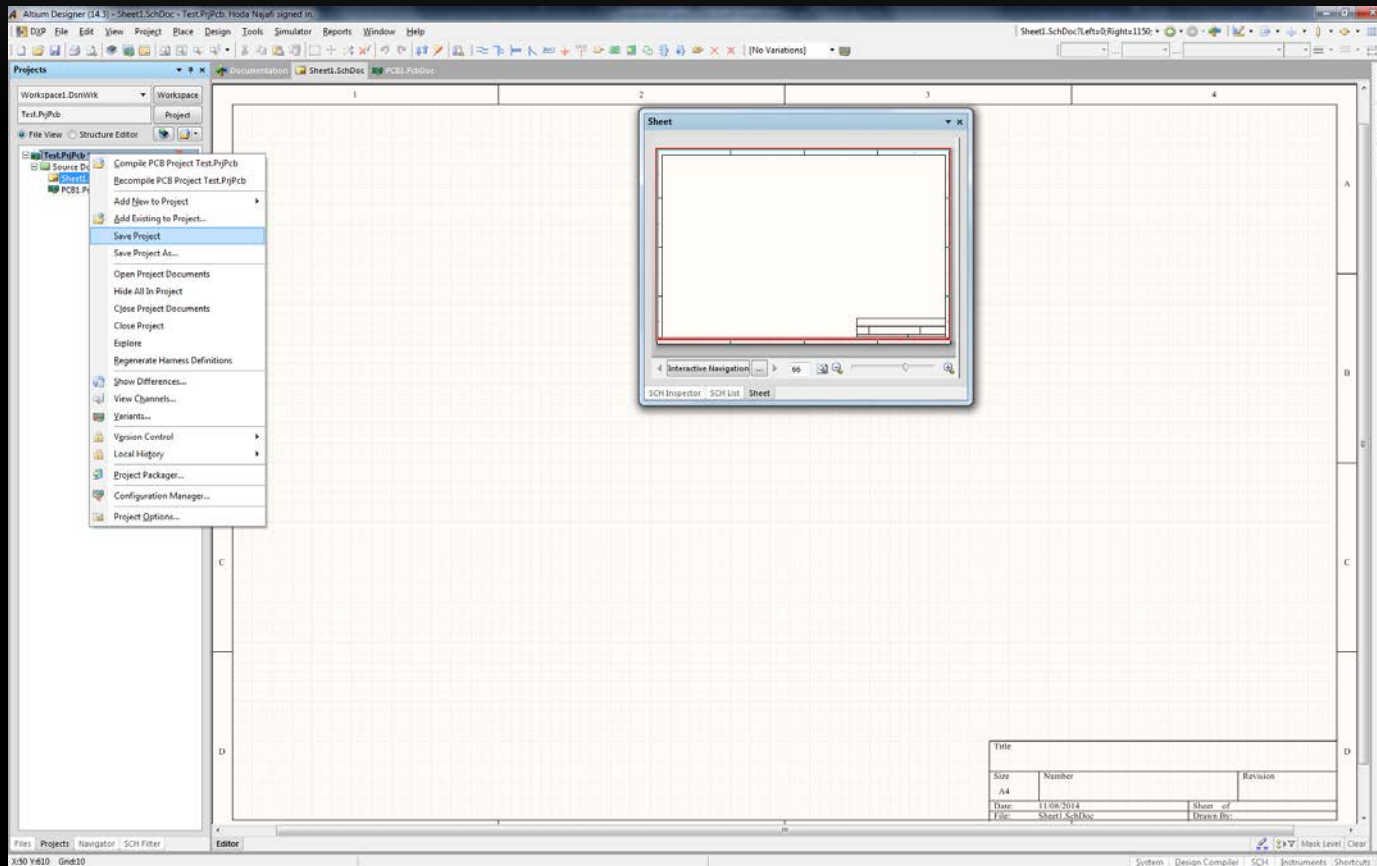

Figure 7
- a. Right click on the name of each file>save (Figure 7,8,9)